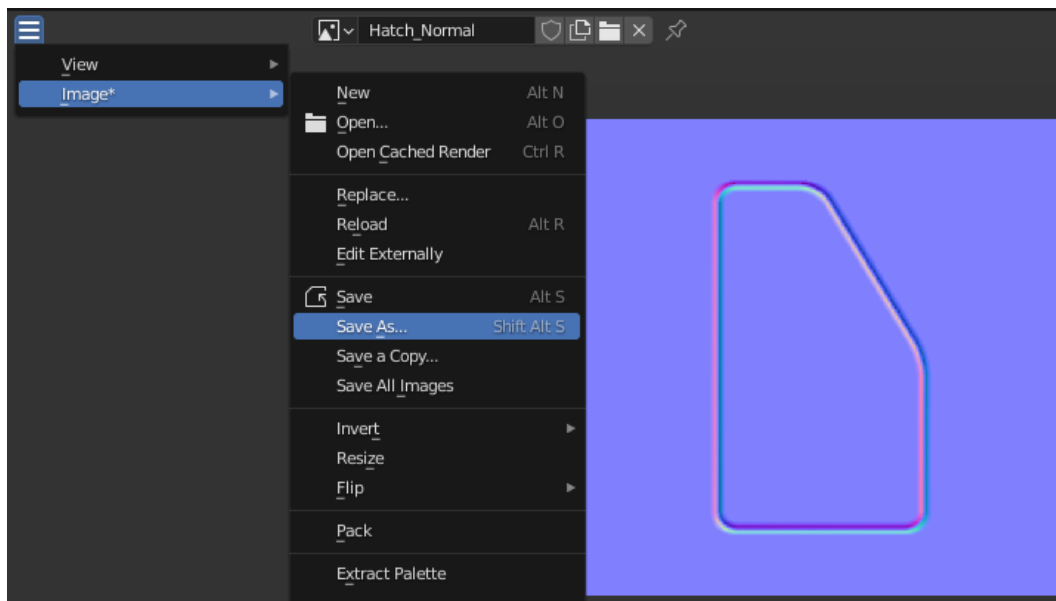

Figure 6.56 – Saving the normal decal
- After correcting the normals, repeat the steps from the *Baking a normal map* section to bake a normal map, as shown in *Figure 6.56*. Save this image to your computer: